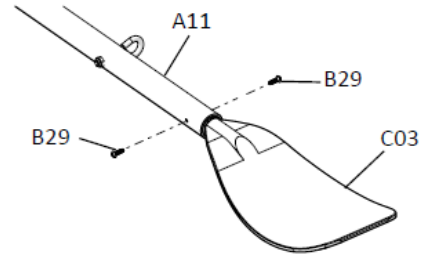

Figure 03
<p>Fig. 03</p>
3. Finish (Upper body muscle group training): Lean your back with two legs stretched. Pull the handle with flat wrists (Fig. 03).